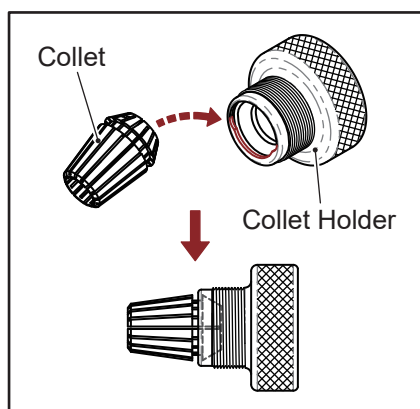

Fig. 7-1
4. Put the collet into collet holder by 45° angle. (Fig. 7-1)